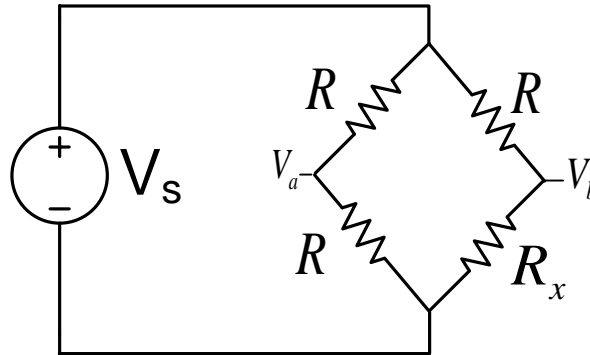

Fig. Q1(a)
- (b) For the circuit given in Figure Q1(b), find the Norton equivalent circuit between a and b .